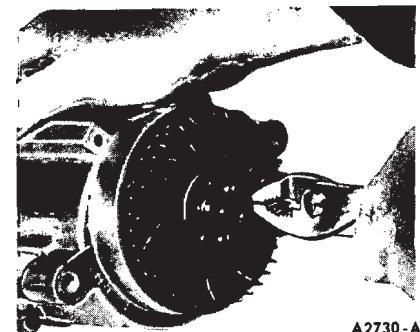

FIG. 6—Removing Thermactor Air Pump Centrifugal Filter Fan
3. Pry the outer disc loose and then pull off the centrifugal filter fan as shown in Fig. 6. Care should be taken to prevent fragments from entering the air intake hole if the fan breaks when removing. **Do not attempt to remove the metal drive hub.**